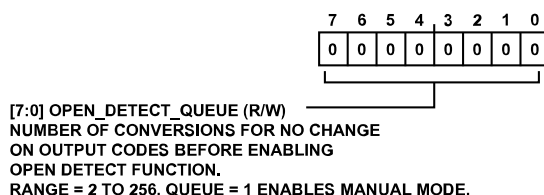
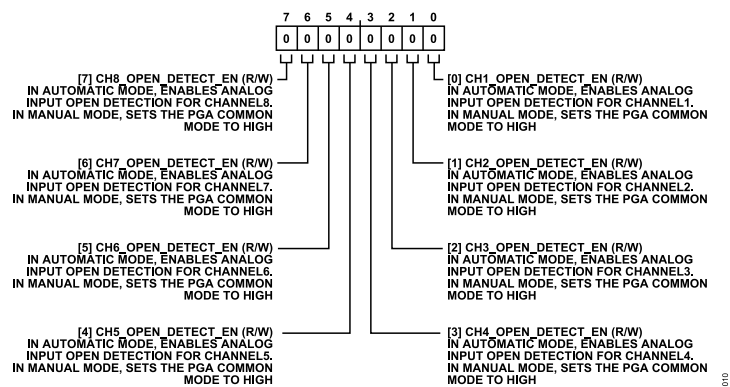

Figure 11. OPEN_DETECT_QUEUE Register, Address 0x2C
Figure 12. OPEN_DETECT_ENABLE Register, Address 0x23
In manual mode, if the ADC code repeats for a number of conversions, before assuming the sensor has been disconnected, the disconnection can be verified through changing the PGA common mode. The common-mode voltage of PGA is controlled by the corresponding CHx_OPEN_DETECT_EN bit in the OPEN_DETECT_ENABLE register (Address 0x23), on a per channel basis, as shown in Figure 12. If changing the PGA common mode on a given channel changes the ADC output code, this indicates that the sensor is disconnected. Otherwise, the sensor is still connected to the analog input.
In automatic mode, the previous method is implemented on chip, eliminating the burden on the back-end software that detects the sensor disconnection. The automatic mode is enabled through writing the number of conversions (N) before the flag triggers, as shown in Figure 11. Then, each channel checker can be enabled or disabled individually through the OPEN_DETECT_ENABLE register (Figure 12).